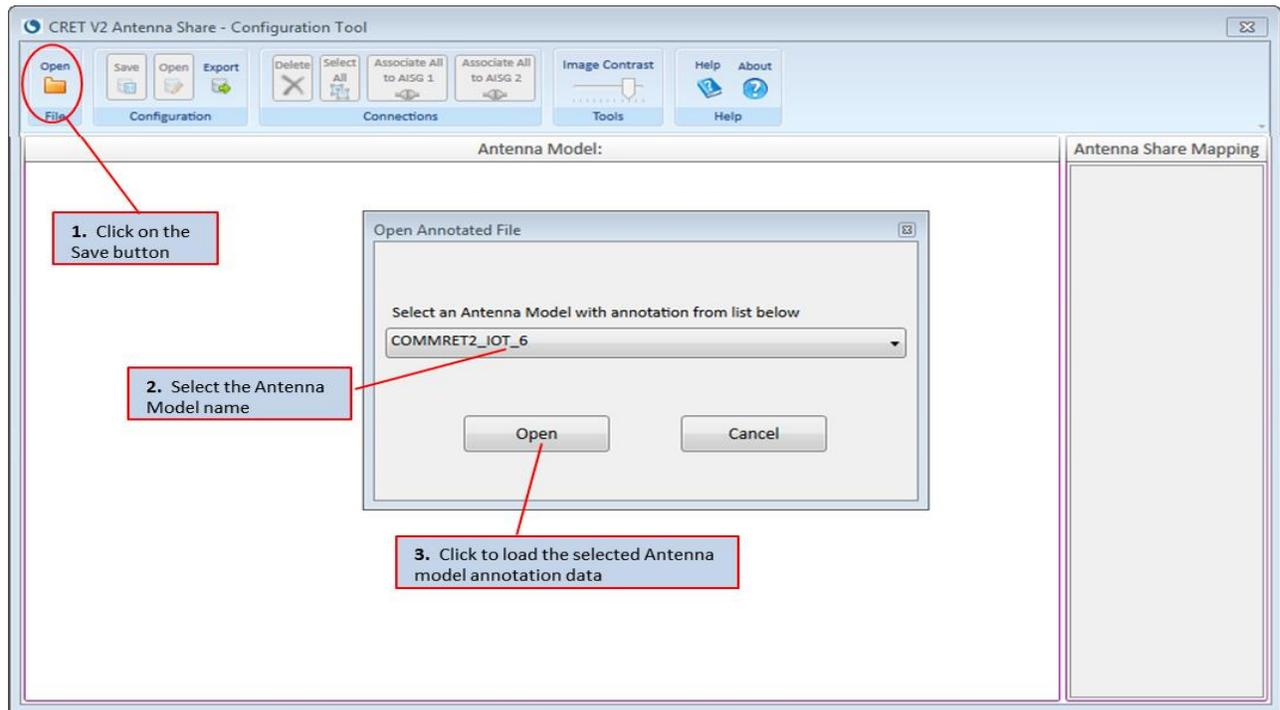

Figure 15-11. Open Antenna Annotation File
1. Click on the “Open” toolbar button to display the window titled “Open Annotated File” as shown in Figure 15-11.